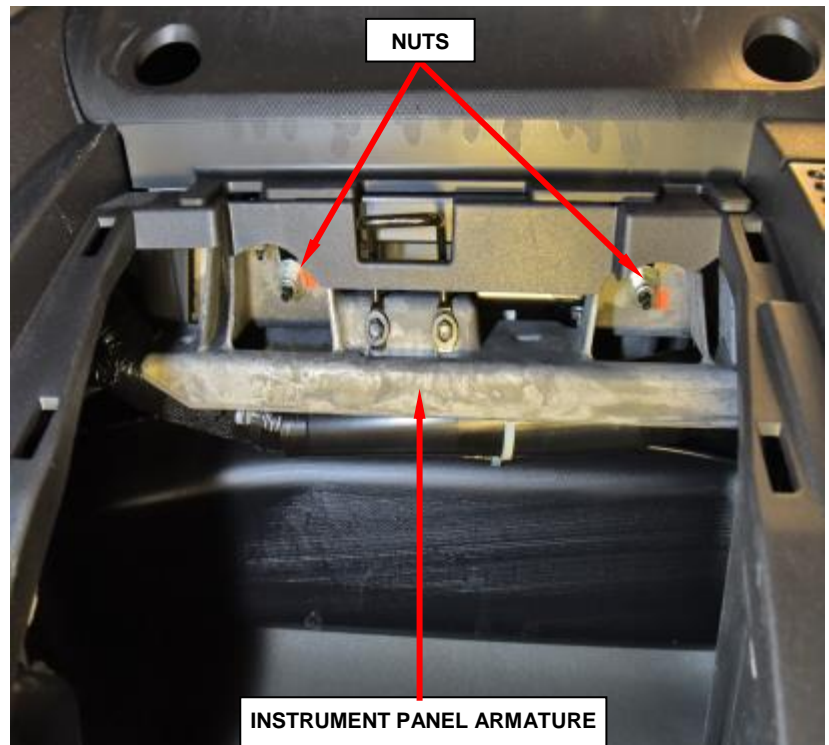

Figure 127 – Lower Passenger Airbag Nuts
6. Reach up into the instrument panel glove box opening to access and remove and **save** the two nuts that secure the passenger airbag lower studs to the instrument panel armature on each side of the glove box latch striker (Figure 127).